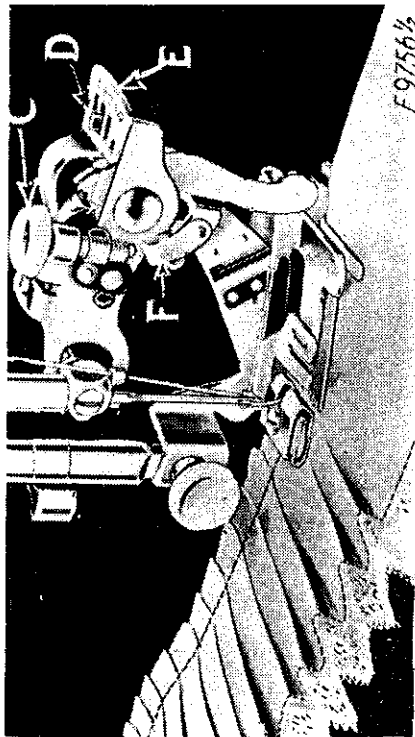

FIG. 47.
adjusting finger (F, Fig. 47). To make a wider plait, move the adjusting finger (F) back or toward the needle and turn the adjusting screw (C) downward. To make a smaller plait, turn the adjusting screw (C) upward. The distance between plaits is regulated by the length of stitch.